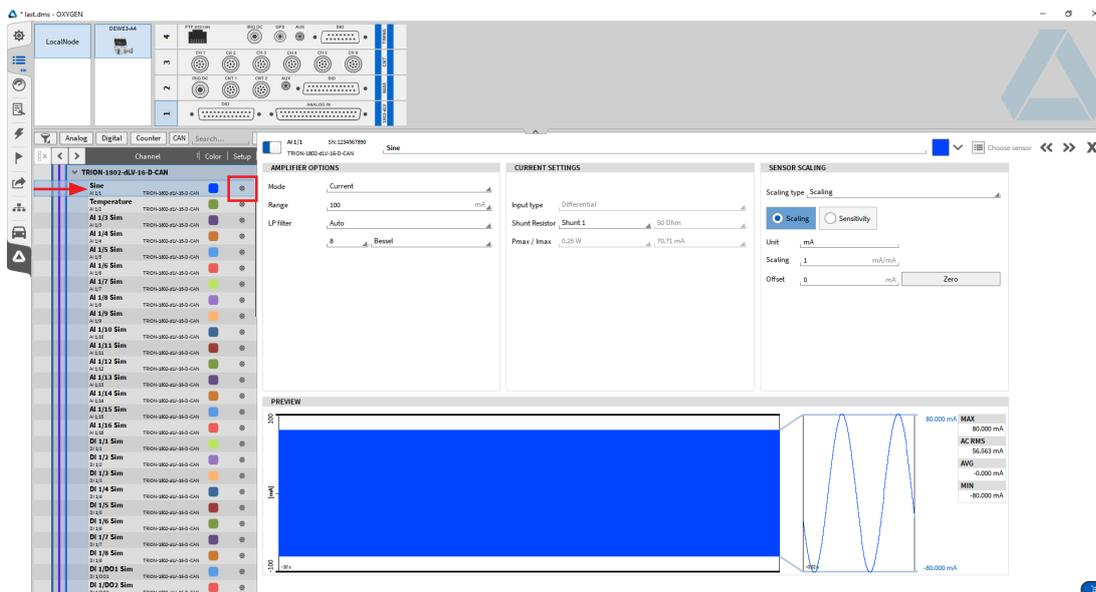

Fig. 24: Changing channel settings
2. Alternatively, the channel settings will also open by clicking on the gear button (see Fig. 24).